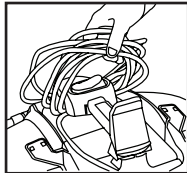

FIGURE 21
44. Grasp the entire cord behind the handle and pull above the rear cord wrap, pull cord towards the front of the vac until the cord becomes disconnected from the front cord wrap. **FIGURE 21.**